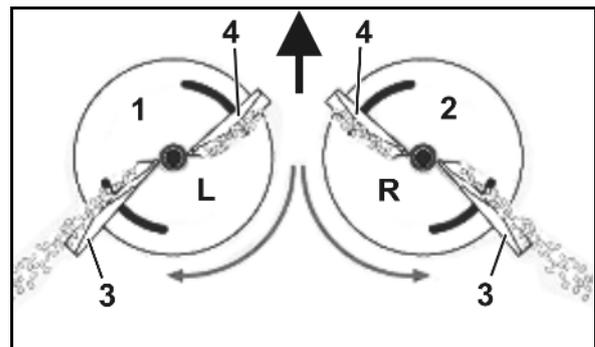

Fig. 40
- Left spreading disc (Fig. 40/1) with **L** mark.
- Right spreading disc (Fig. 40/2) with **R** mark.
- **Long** (Fig. 40/3) – Adjustment scale with values from 35 to 55.
- **Short** (Fig. 40/4) – Adjustment scale with values from 5 to 28.